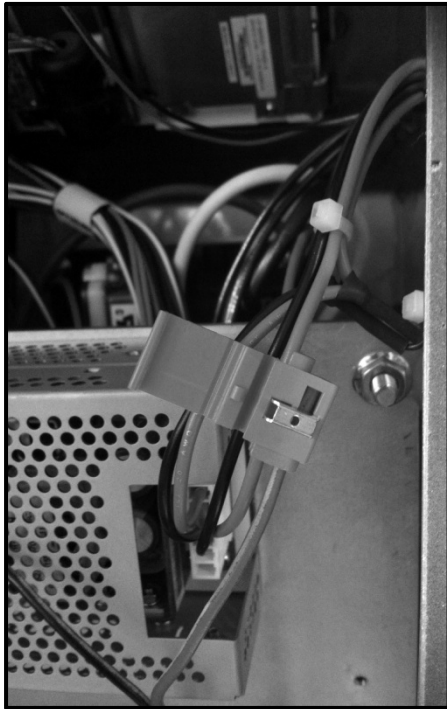

Figure 8
- 17. Using the (2) 3M #558 wire connectors provided, clamp the red and black 18 gauge wires running from the router to their respective colored wires running from the 12V power supply as shown in *Figures 8 and 9*.